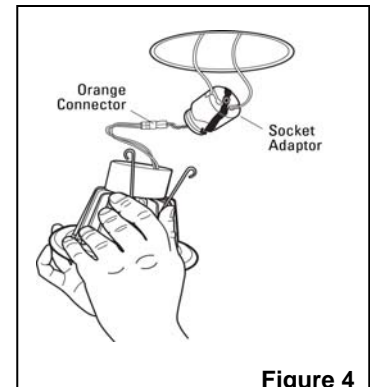

Figure 4
**NOTE: If your can does not have (2) torsion spring retention brackets inside, see the "Torsion Spring Adapter" section prior to going further.**
- Securely screw socket adapter into socket inside the can. Plug the orange connector of socket adapter into the LED module's mating orange connector. (Figure 4)